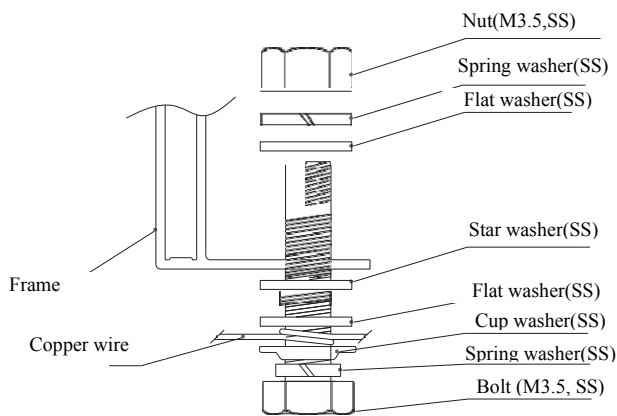

Figure 6
- The grounding bolts must be made of stainless steel and be used in the specified grounding holes. First, make the M3.5 stainless steel bolt pass through the spring washer, flat washer, cup washer (copper conductor with a diameter of 2.1 mm) and star washer, and then insert through the grounding hole, flat washer and spring washer on the frame. Finally, tighten with a M3.5 nut. Caution: The upper limited temperature of the conductor is 85°C. As for the installation, refer to Figure 6.